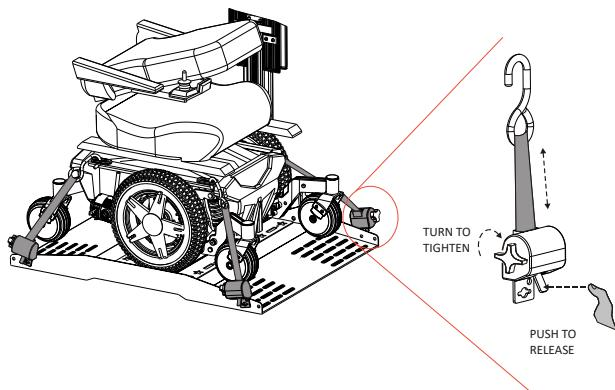

Figure 3-7
- With the optional Q'Straint retractors, place each hook in the appropriate anchor plate slot, U-bolt, or tie-down loop. The straps will automatically retract and secure the mobility device. Make sure each strap retracts without any interference or slack in the strap. Adjust if necessary. To release, press and hold the lever to release the straps and then remove the hooks. *See Figure 3-7.*